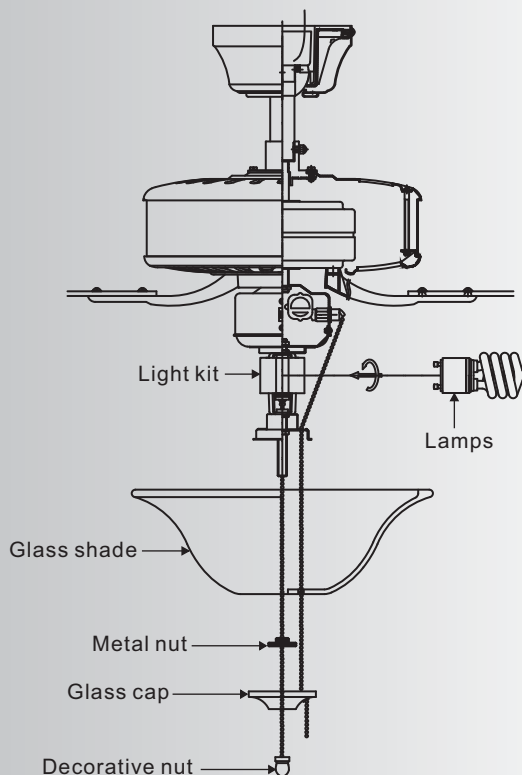

Fig. 18
Step 2. Remove the decorative nut, glass cap and metal nut from the light kit. Place glass shade over the light kit stem, secure with the metal nut (rubber side on the top), glass cap and decorative nut. Do not overtighten. (Fig. 18)